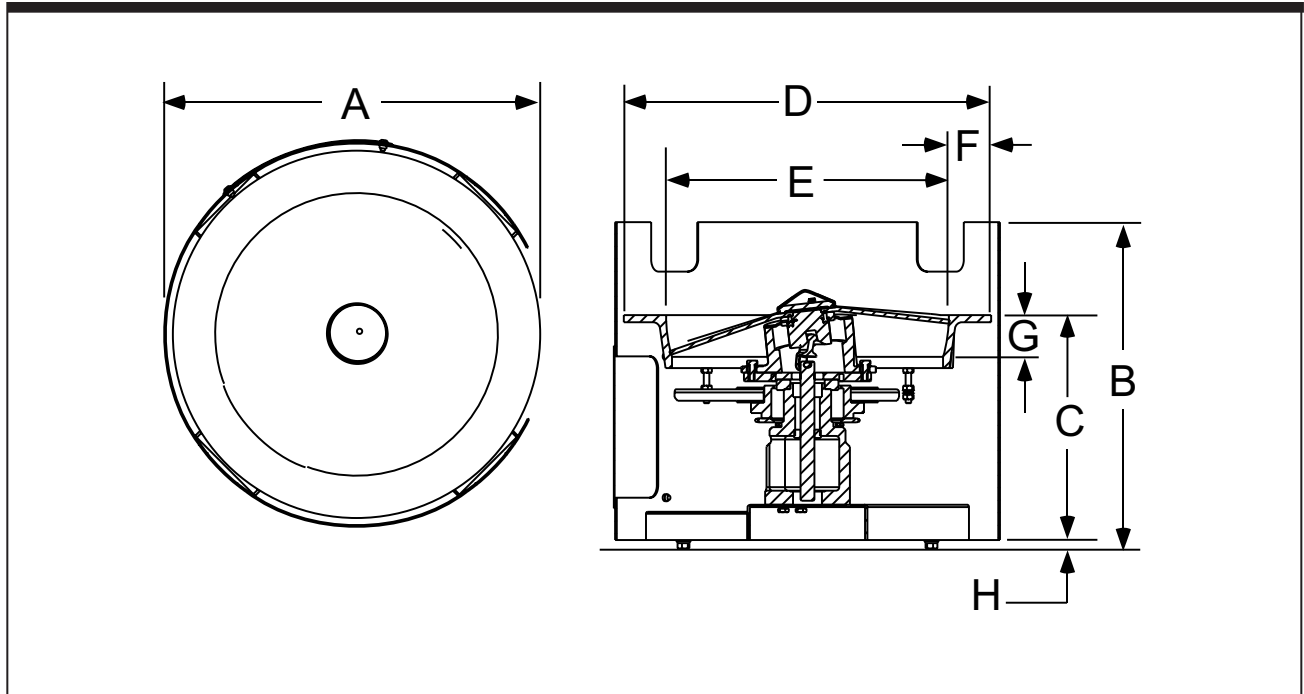
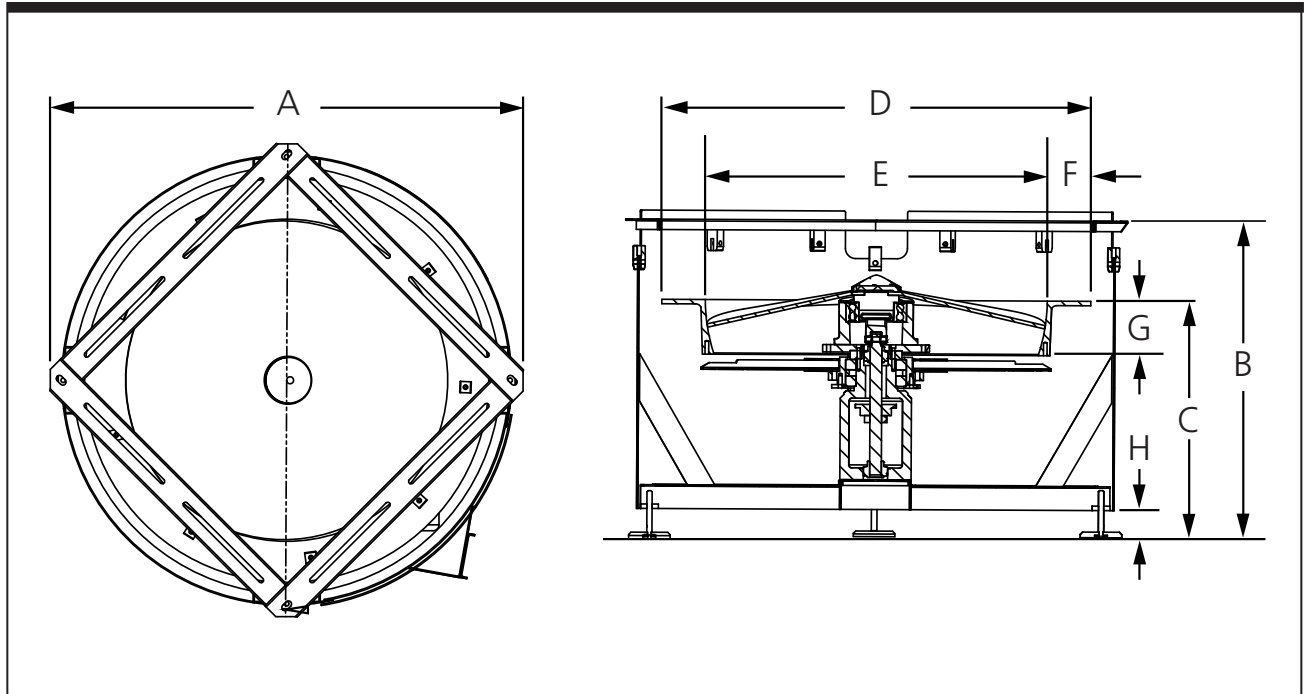

Figure 1-2. FT-20-RD Side and Top Views
Figure 1-3. FT-30-RD Side and Top Views
**Function** The delivery rate varies depending on product characteristics. The feeder easily interfaces with Shibuya Hoppmann's prefeeders, accumulating conveyors and assembly equipment. (See to Figure 1-2 for the FT-20-RD product specifications, and Figure 1-3 for the FT-30-RD product specifications.)